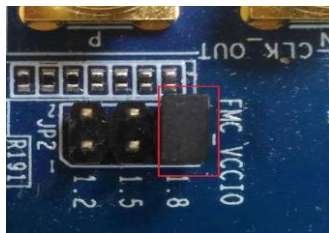

Figure 4-13 Adjust FMC VADJ to 1.8V (default) by short JP2(1.8)
- Make sure the FMC’s VADJ is set to 1.8V by short JP2(1.8) as shown in Figure 4-13.